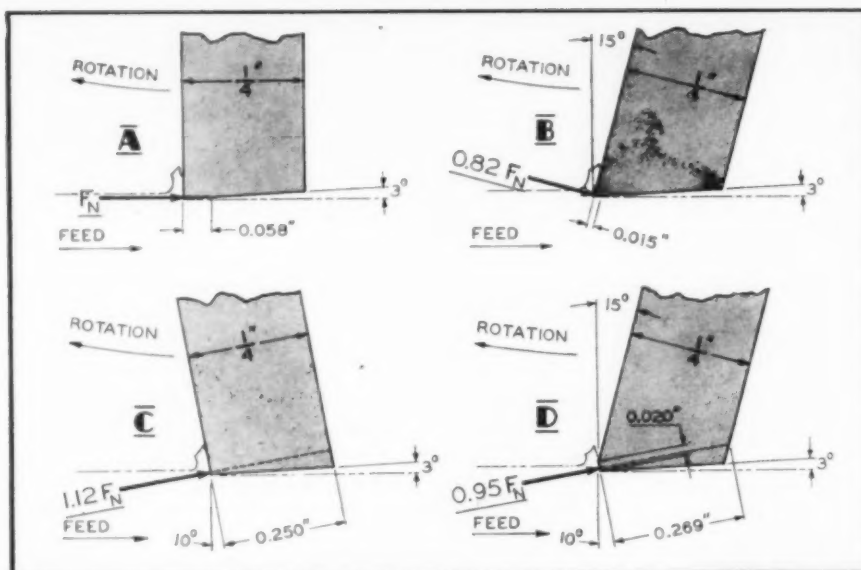

Fig. 3. Different radial rake angles for milling cutters.
Carbide cutters designed with positive radial rake angles and provided with variable small negative rake angles at the cutting edge, were proposed by Kearney & Trecker research engineers several years ago (4). These cutters have found general acceptance in industry and are now made by a number of companies. They permit easy adaptation to steels of various hardness as well as to different materials. They can be operated with less horsepower, longer tool life, and greater economy of carbide material than many other types of cutters. Since they also exert less thrust it has been found advantageous to use them in milling welded steel structures which would deflect and vibrate excessively when milled with ordinary carbide cutters; See Fig. 3.